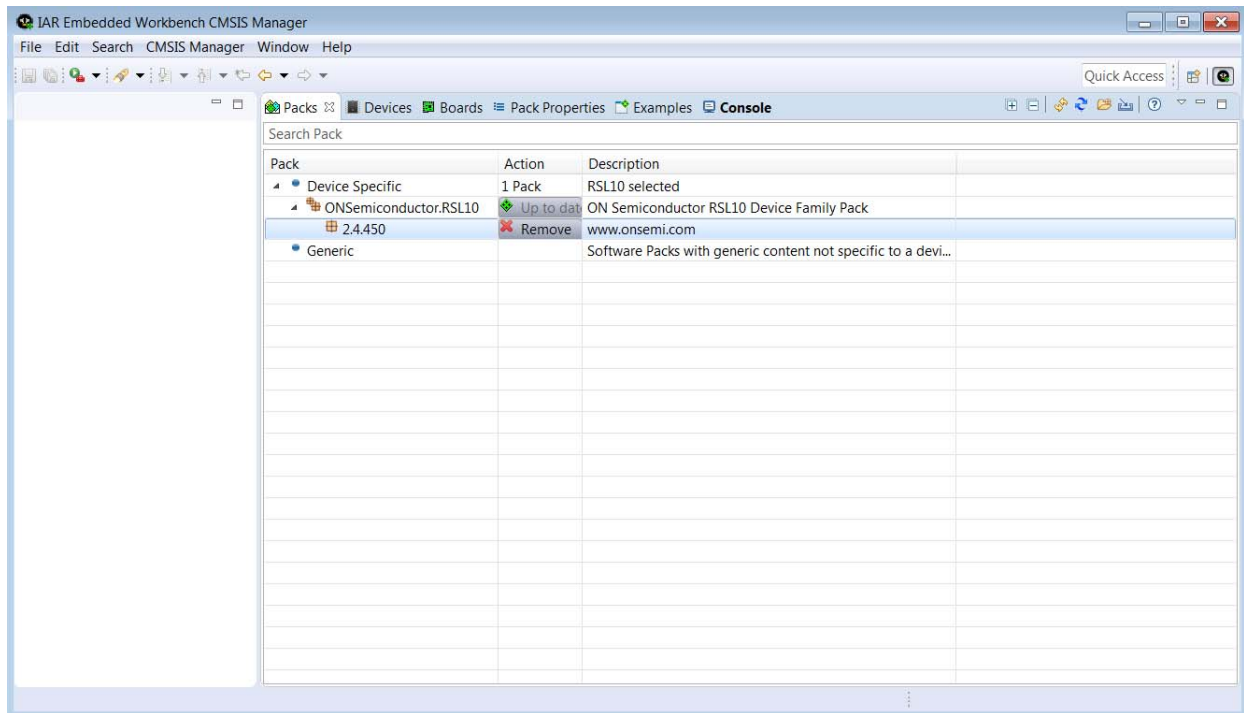

Figure 30. The IAR Embedded Workbench CMSIS Manager after RSL10 CMSIS-Pack is Installed
6. In the **Devices** tab, expand **All Devices** > **ON Semiconductor** > **RSL10 Series**, and select **RSL10** from the list. The RSL10 CMSIS-Pack now appears in the list of installed packs in the **Packs** tab. Expanding *ON Semiconductor.RSL10* makes the **Pack Properties** tab display the details of the RSL10 CMSIS-Pack. Figure 30 on page 27 illustrates what the Pack Manager perspective looks like after installation.